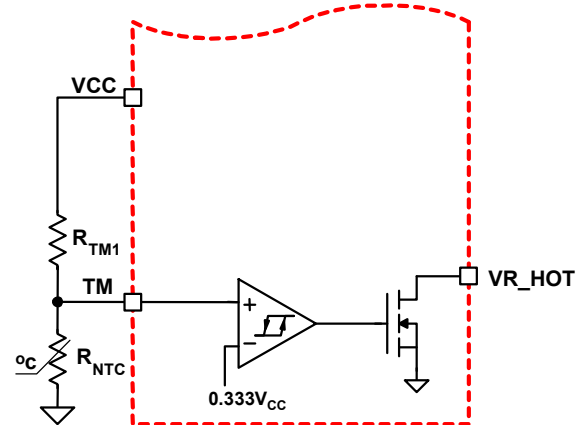
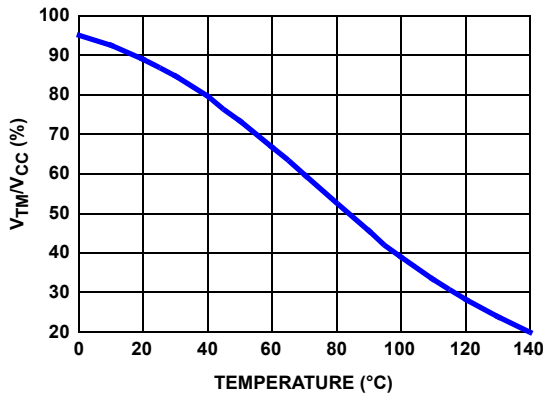

FIGURE 12. BLOCK DIAGRAM OF THERMAL MONITORING FUNCTION
FIGURE 13. THE RATIO OF TM VOLTAGE TO NTC TEMPERATURE WITH RECOMMENDED PARTS
The diagram of thermal monitoring function block is shown in Figure 12. One NTC resistor should be placed close to the power stage of the voltage regulator to sense the operational temperature, and one pull-up resistor is needed to form the voltage divider for the TM pin. As the temperature of the power stage increases, the resistance of the NTC will reduce, resulting in the reduced voltage at the TM pin. Figure 13 shows the TM voltage over the temperature for a typical design with a recommended  $6.8\text{k}\Omega$  NTC (P/N: NTHS0805N02N6801 from Vishay) and  $1\text{k}\Omega$  resistor  $R_{TM1}$ . We recommend using those resistors for the accurate temperature compensation.
Based on VCC voltage, ISL6334B, ISL6334C converts the TM pin voltage to a 6-bit TM digital signal for temperature compensation. With the non-linear A/D converter of ISL6334B, ISL6334C, the TM digital signal is linearly proportional to the NTC temperature. For accurate temperature compensation, the ratio of the TM voltage to the NTC temperature of the practical design should be similar to that in Figure 13.
1. Properly choose the voltage divider for the TM pin to match the TM voltage vs temperature curve with the recommended curve in Figure 13.